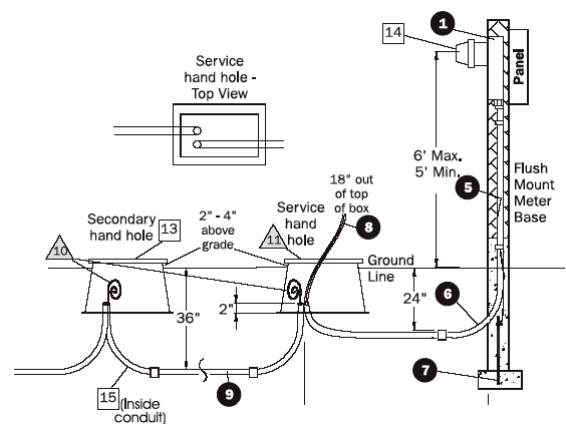

Figure 4: Flush mounted base with secondary hand-hole
- Flush mounted (see Figure 4)
bottom of the dirt floor of the hand-hole, and centered in the short side of the hand-hole (*see the Top View in Figures 4 and 5*).
Items owned and installed by customer or customer's electrician are generally everything between the hand hole to the customer's meter (*Figs. 4 and 5*)
Items owned and installed by NSTAR are generally those between the pole and the hand hole, but also include the meter itself (Figs. 4 and 5)